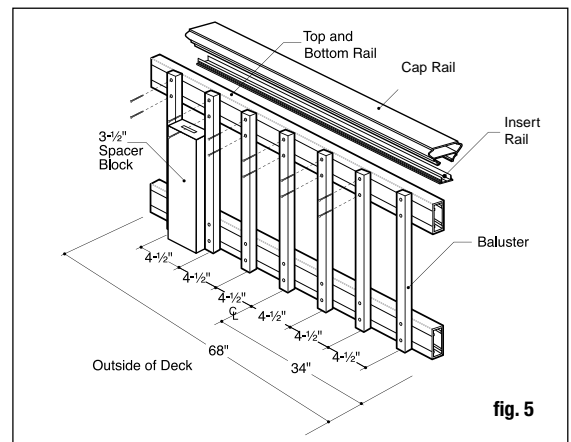

fig. 5
Glass balusters Both top and bottom rails will be installed with the pre-drilled holes facing down to prevent water from collecting in the rail. 7-1/2" on-center and equal spacing for the end spacing. Start by finding the center of the rail. Rail length ÷ 2 = center of rail. Start the first glass baluster on-center of the center line. Mark every 7-1/2" from the center line to each end. This will leave the end spacing 4" or less on both ends and require 1.5 glass balusters per foot. If installing using connectors, attach connectors to both rails on marked locations. Tip: If face-mounting to rail, use a piece of 2x4 (3-1/2" actual) as a spacer block for the spacing between balusters (fig. 5).
Step 12 Traditional, Baroque, Arc balusters and Face-Mount Glass balusters Start the first baluster on-center of the center of the rail and work out to each end. Using the baluster as a guide, drill 9/64" holes in the rails at each baluster location. Use a 2x4 as a spacer block to space the next baluster. Working toward the ends, drill and attach each baluster with the screws provided (fig. 5).